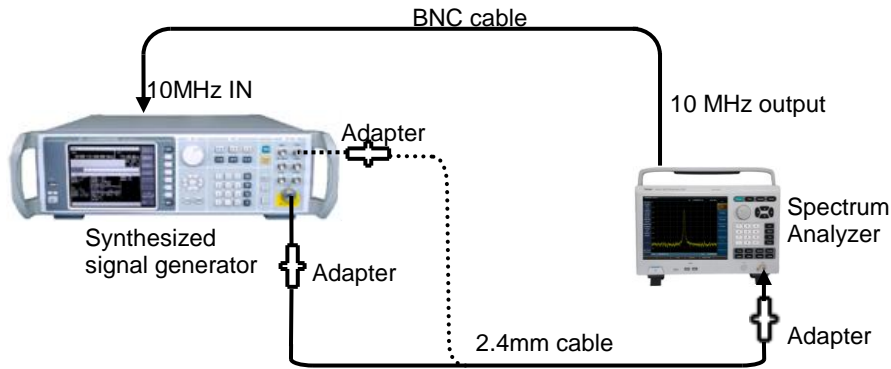

Fig 11-1 Test of frequency range
- 1) As the dashed-line connected test device shown in Fig 11-1, spectrum analyzer 4041 (hereinafter referred to as the spectrum analyzer) provides the reference frequency for the synthesized signal generator1464C of which the low-frequency output is connected to the RF input of the spectrum analyzer (as shown in dotted line of Fig 11-1).
- 4) As shown in the solid line in Fig 11-1, connect the RF output of synthesized signal generator1464C to the RF input of spectrum analyzer with the adapter and cable. Set the output frequency of signal generator to the highest frequency of corresponding model of spectrum analyzer. Turn off the modulation function and set the output power at -10 dBm.